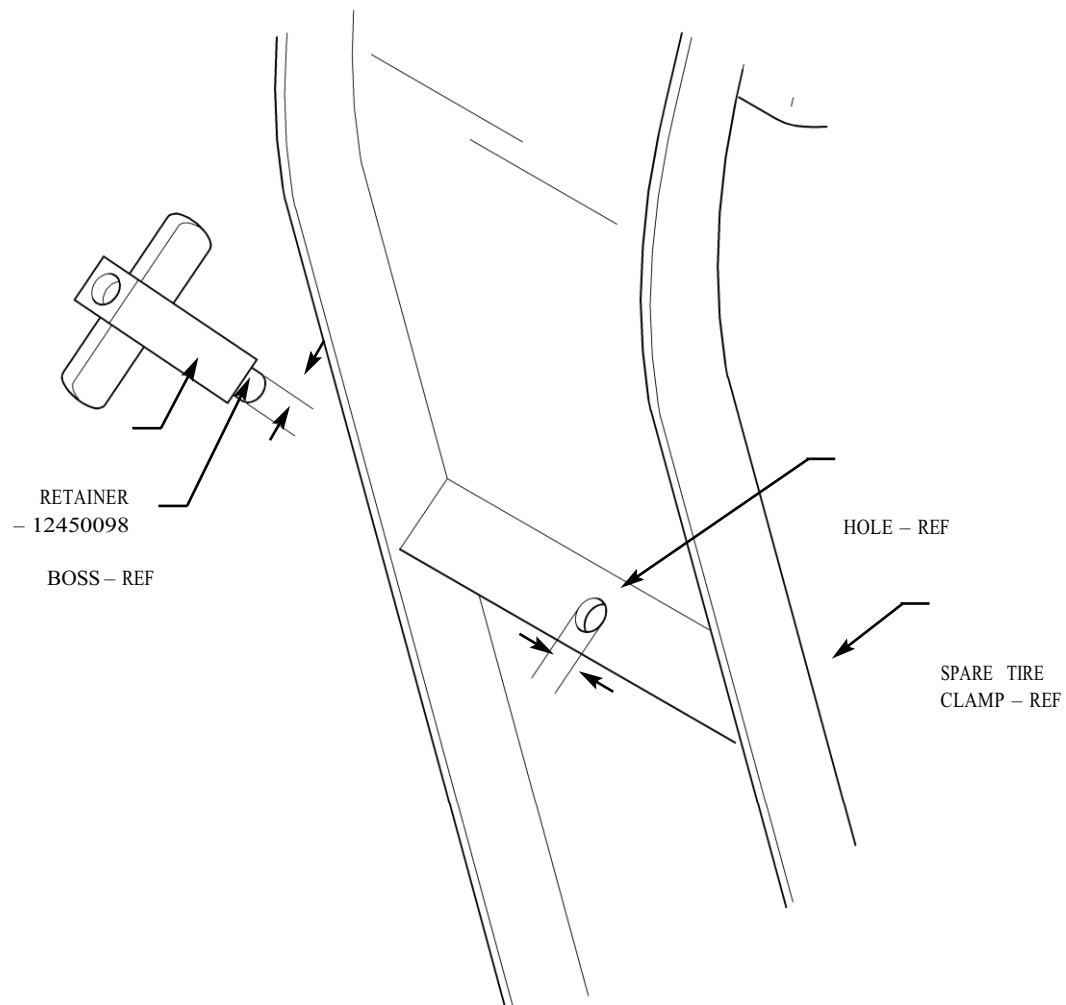

FIGURE 1
- (1) Set parking brake (refer to TM 9-2320-272-10).
- (2) Remove spare tire (refer to TM 9-2320-272-10).
- (3) Enlarge hole in spare tire clamp to allow passage of boss of 12450098 retainer as shown in figure 1.